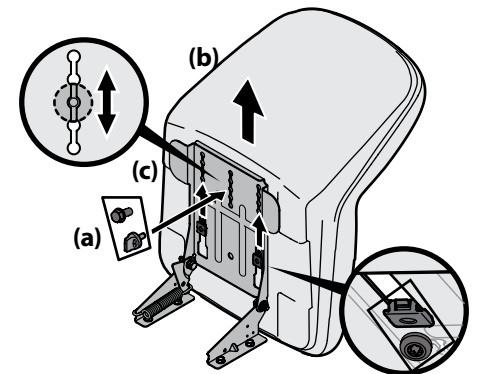

Figure 2-6
- Slide the seat (b) rearward in the seat pivot bracket (c), lining up the center rear slot in the seat pivot bracket (c) with the remaining hole in the seat (b) base. See Figure 2-6.
**NOTE:** Be certain the two seat tabs (square or round) engage the seat pivot bracket as shown in the bottom right inset of Figure 2-6.
- Select the desired position for the seat (b), and secure with the adjustment knob/bolt (a) removed in Step 1. See Figure 2-6.
- To adjust the position of the seat, remove the adjustment knob/bolt (a) on the bottom of the seat (b). Slide the seat (b) forward or backward as desired. Reinstall the adjustment knob (a). See Figure 2-6.